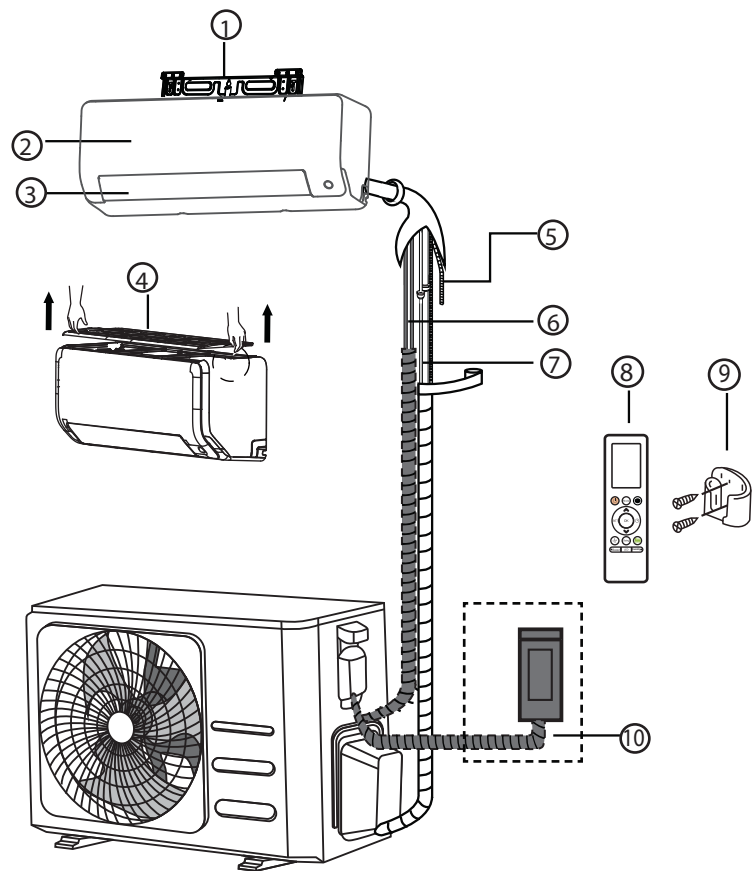

Fig. 2 — Parts
- The illustration above (Fig. 2) is only a sketch. Different models may be differ slightly.